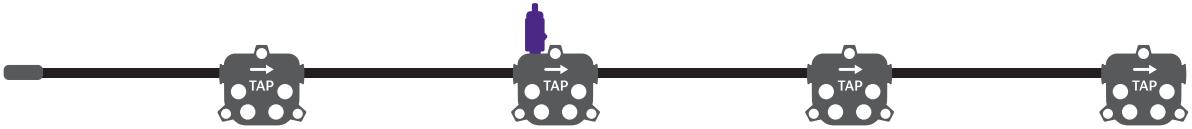

Figure 1 – I-Stop probe connected to KS port
a. Connect I-Stop probe to KS port on equipment being tested (Figure 1)
- a. Connect I-Stop probe to KS port on equipment being tested (Figure 1)